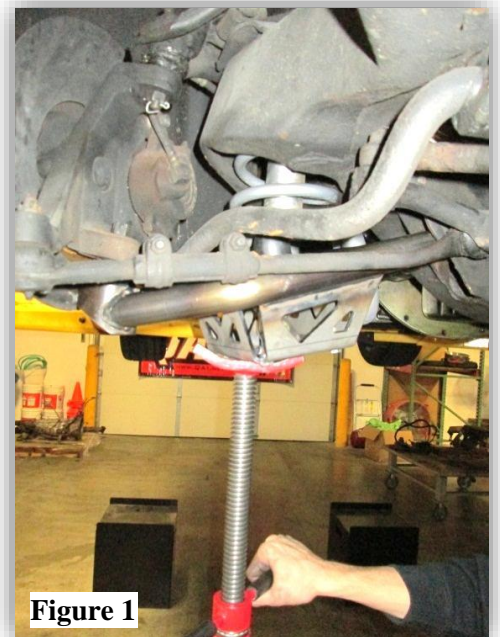

Figure 1
7. Support the lower control arm with a jack to take pressure off the droop stop and to contain the spring pressure. **(Figure 1)**
6. Support the lower control arm with a jack to take pressure off the droop stop and to contain and remaining spring pressure. **(Figure 1)**